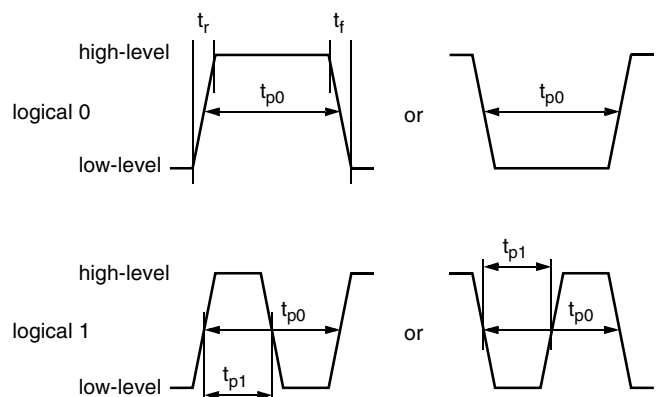

Fig. 5–1: Definition of logical 0 and 1 bit
- Read a register (see Fig. 5–3 on page 34)
on the V_{DD} -line is created to start the charging of the EEPROM cells. Then, the supply voltage is kept constant during the charging time. To stop the charging, a further command is sent to the HAL 855. This stopping command can be a further programming command or a read command (see Fig. 5–5 on page 35).
To lock the EEPROM registers, the lock bit has to be programmed. Write the lock bit into the lock register. If the telegram is valid and the command has been processed, the sensor answers with an Acknowledge Bit (logical 0) on the output. In order to store the lock bit permanently, an erase and program command have to be sent to the sensor. The same procedure as mentioned above (Programming the EEPROM cells Fig. 5–5 on page 35). The EEPROM registers are locked **after** a power on reset.
- Activate a sensor (see Fig. 5–4 on page 34)